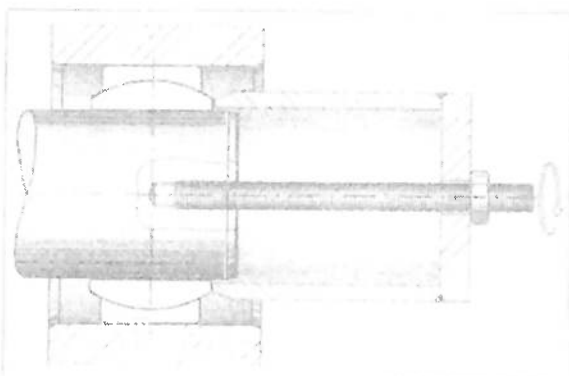

Fig. 9 - Threaded holes in the shaft and housing
- a threaded hole for an extraction screw in the shaft (Figure 9)